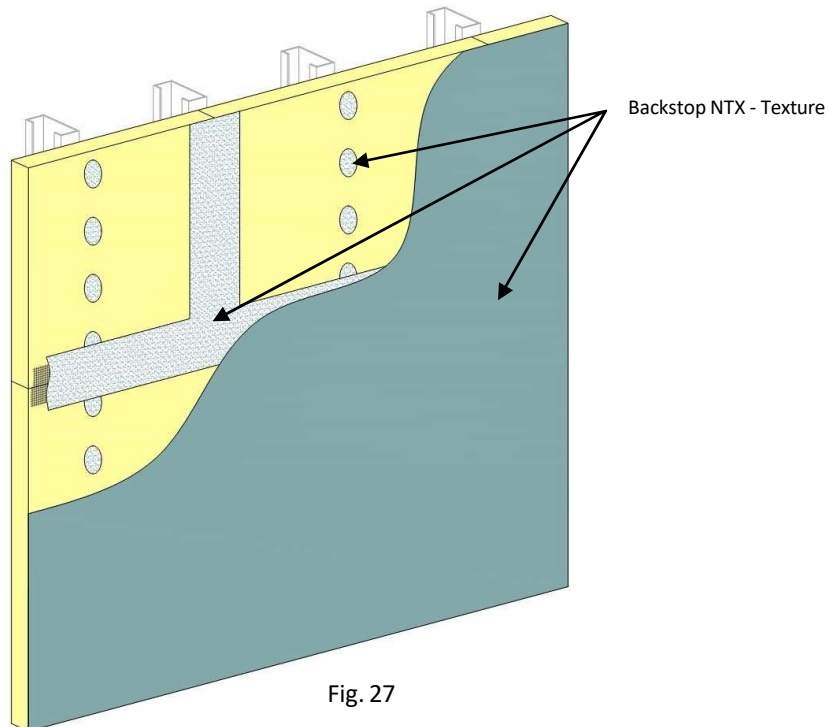

Fig. 27
- a. Use a coarse, open-cell foam roller cover with a 3/8 in (9.5 mm) foam nap (FoamPRO #58 roller). Apply a uniform, continuous film of Backstop NTX – Texture over the entire surface of the sheathing, concrete or masonry, including the previously treated areas – Figure 27.